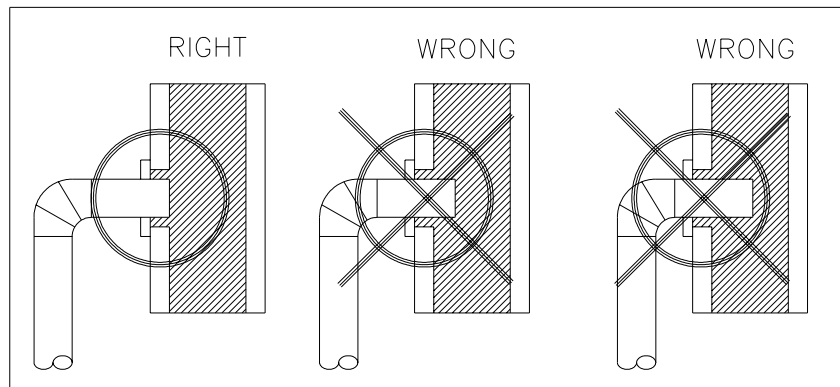

Fig. 8
4. The pipe cannot extend into the chimney flue.(Fig. 8)
7. It is recommended that no more than two (2) 90 degree bends be used in the stove pipe installation as more than two (2) may decrease the amount of draw and possibly cause smoke spillage.
1. The connector pipe may push into the chimney too far, stopping the draft. (Fig. 8)